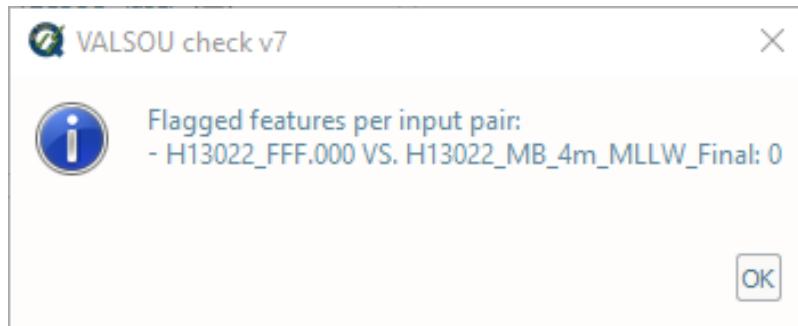

Fig. 2.28: The output message at the end of **VALSOU check v7** execution.
- After computing, the output window opens automatically, and the results are shown (Fig. 2.28). Note, the check considers all combination of grids and features files loaded. If there is no overlap found between a grid and feature file, no output is generated, and the summary will report "no overlap".